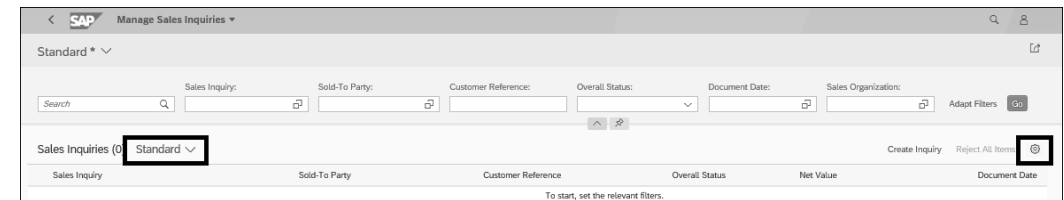

Figure 4.59 Manage Sales Inquiries: Settings and Layout Save
- After your filters are set correctly and saved, you can do the same for your output method. Your layout settings can be amended by using the **Settings** icon, as shown Figure 4.59. The drop-down arrow next to **standard** is used to save the settings once amended.
9. When the settings have been amended, you can save the layout by selecting the drop-down arrow next to standard, as highlighted in Figure 4.59.